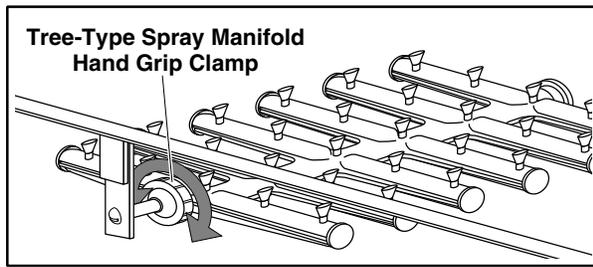

Figure 29: Tree-Type Spray Manifold Hand Grip Clamp
- b. Unscrew the Manifold Hand Grip clamp to loosen the Spray Manifold (Figure 29).